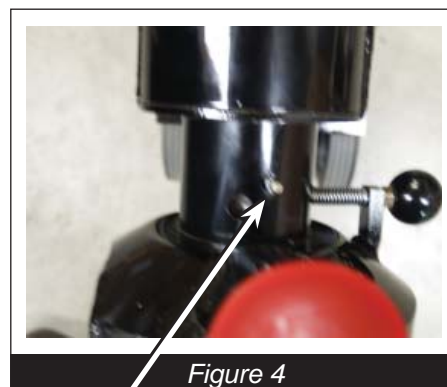

Figure 4
- Grease disc bearings every 4 hours of use. To access the bearings refer to *(Figure 4)*. These bearings should be lubricated with Lubriplate No. 630-2, or equivalent bearing grease. Do not over lubricate. Be sure to clean up any excess grease after lubricating the bearings.